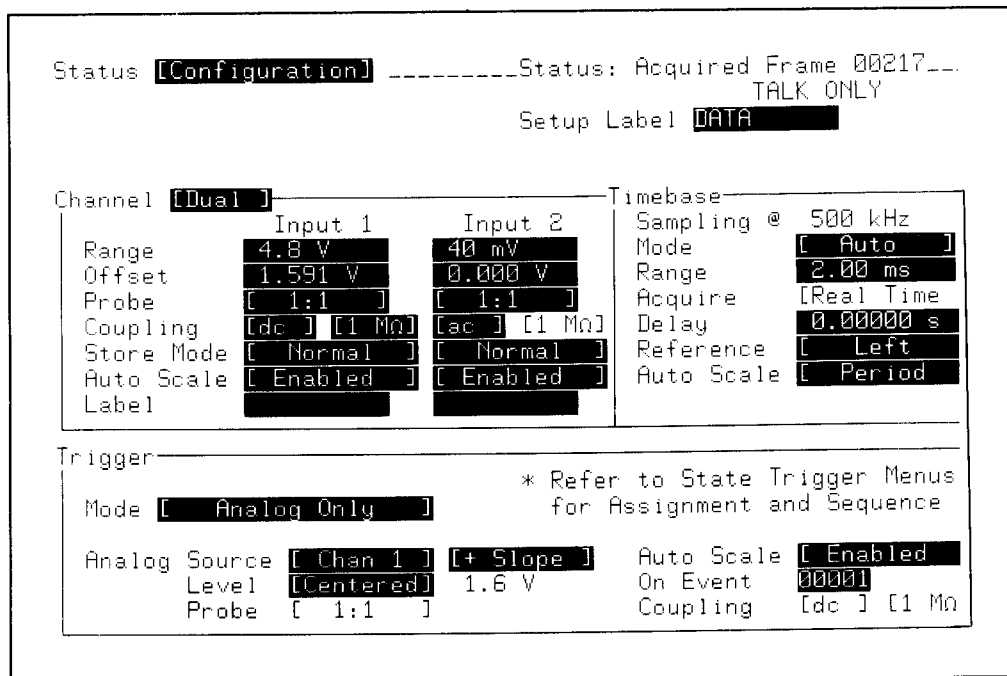

Figure 3-8. STATUS Configuration Submenu
**STATUS CONFIGURATION SUBMENU (Figure 3-8).** This submenu provides a display to view all of the channel, time, and trigger setups. The setups may be changed in this menu or may be changed by using the Channel, Time or Trigger menu which are discussed later in this chapter. In addition to the setup information covered by these menus, the configuration submenu contains a setup label, channel waveform math selection, and channel labels.